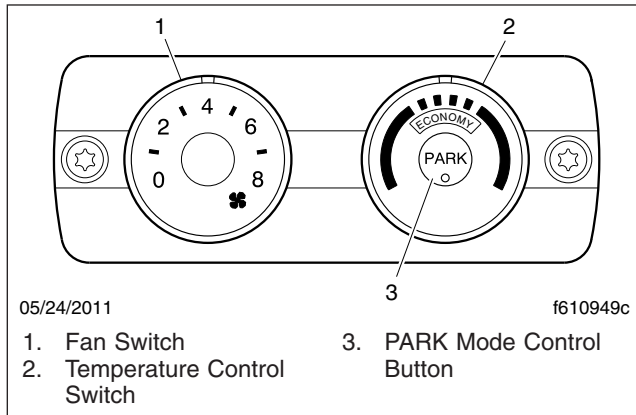

Fig. 8.6, ParkSmart Climate Control Panel
fan speeds. Zero (0) is the OFF position. See Fig. 8.6. To operate the fan switch, turn the switch clockwise to increase airflow; turn the fan switch counterclockwise to decrease airflow.
- The ParkSmart runs unless the ParkSmart fan speed control knob is turned to the "OFF" position. See Fig. 8.6. The fan speed control knob must be set at "1" or higher.